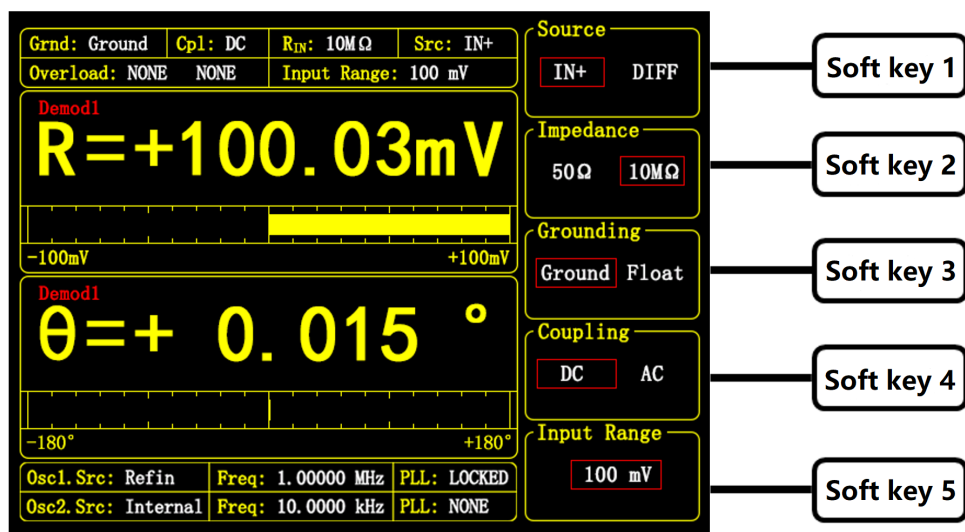

Figure 90. [SIGNAL INPUT] Menu Interface
Press "Soft key 5" to select the <Input Range> function. The selected area is highlighted. Rotate the knob to adjust the <Input Range> value so that the measured signal value is as close as possible to the input range without causing overflow. In this example, set it to <200 mV>. At this point, the sine-wave signal from the function generator has been measured. As shown in Figure 90, the measured data are $R = 100.03 \text{ mV}$ and $\theta = 0.015^\circ$.